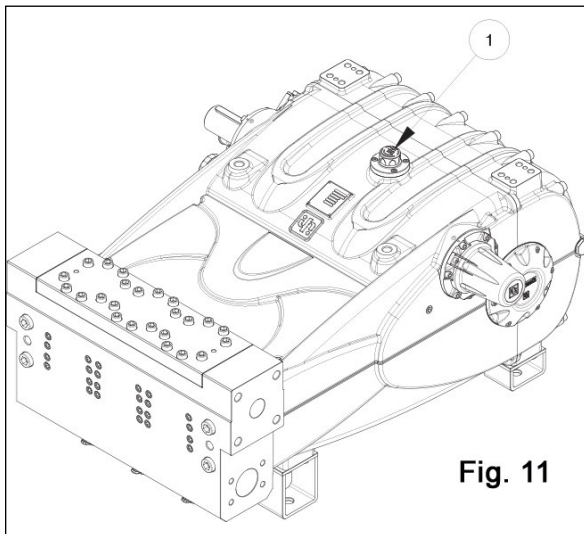

Fig. 11
5. The pump's oil level must be verified using the correct dipsticks (position 1, fig 11 and 11a) on the top of the crankcase.